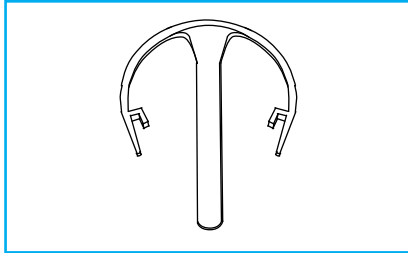

Fig.57
- B. On flanged installations remove the trim assembly using the supplied tool *"Fig.57"*, reference section F.1.
- I. Install trim assembly if removed using the supplied tool *"Fig.57"*, reference section F.1. Raise LED engine into the trim aperture and push up until it clicks into place.
- D. On flanged installations remove the trim assembly using the supplied tool *"Fig.57"*, reference section F.1.